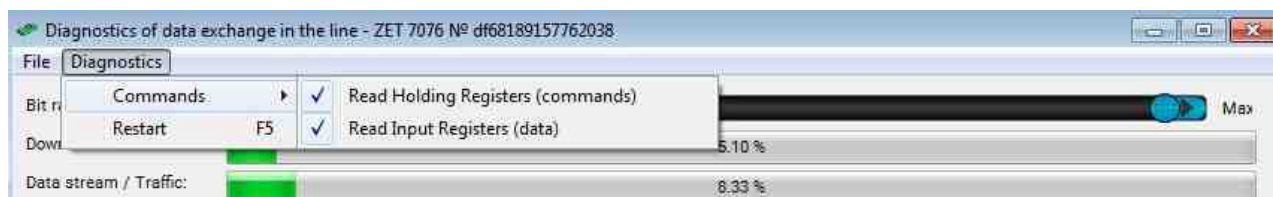

Fig. 7.6 "Commands" menu
- When sending the "Read Holding Registers" command only to devices existing in the line. The data request command – "ReadInputRegisters" should be disabled via the menu "Diagnostics" - "Commands" (*Fig. 7.6*).